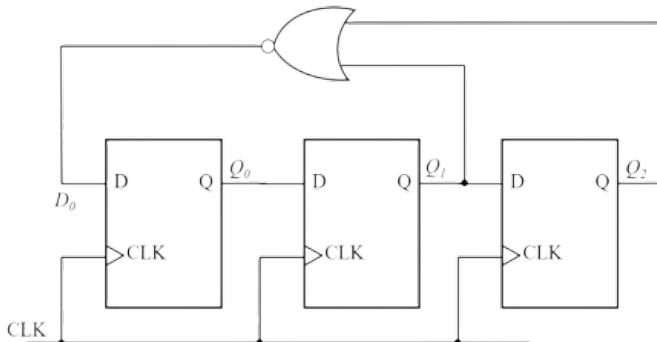

Fig. 5.13
13. The digital circuit shown in Fig. 5.13